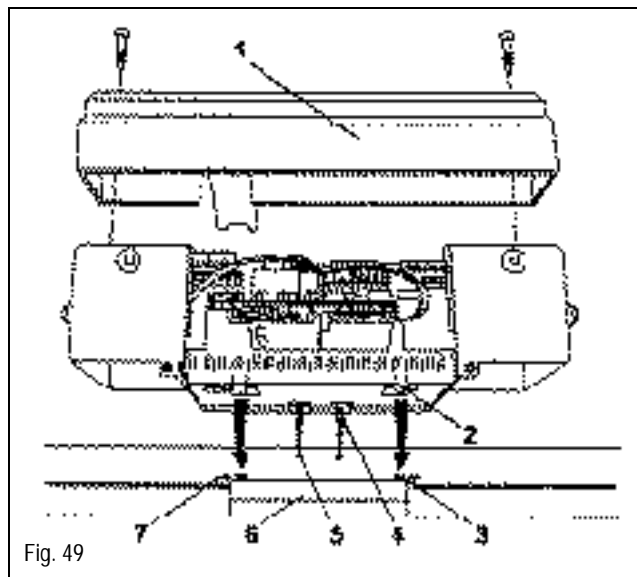

Fig. 49
- Remove 2 top screws from control panel housing (1). (Fig. 49).
- Mount control on top of boiler by engaging bottom front tabs (4,5) into oval knock-outs. Pull control forward, press down on rear part of control and snap plastic hooks (2) in the rear into square knock-outs (3,7). (Fig. 49).